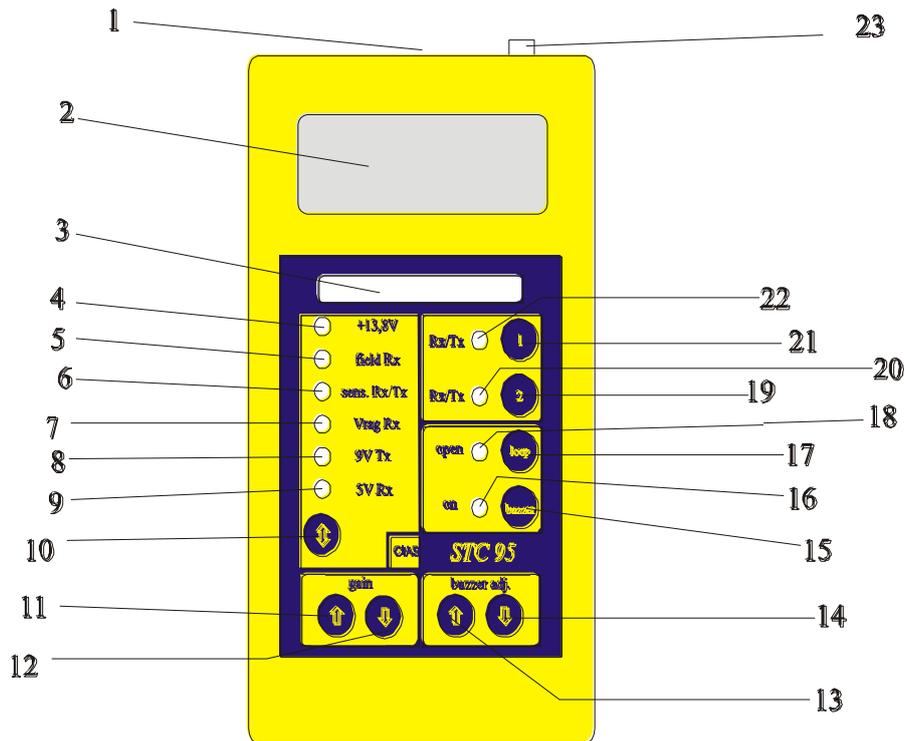

Figure 10
For the Microwave Barrier Adjustment and Testing, CIAS gives the availability of a dedicated instrument, with the intention to facilitate installation operation and operator activity support. The following figure 10 shows the CIAS STC 95 instrument with function explanations.
- l) Press key **“↑” (10)** till led **“V Rag Rx” (7)** is on. Check that a voltage value within $2,5 \div 6,5 V_{DC}$ is read on the display. This AGC voltage value is directly proportional to the distance between the transmitting and receiving heads.
- m) Press key **“↑” (10)** till the Sensitivity Measurement led **“sens Rx / Tx” (6)** is on. Operate on the **SEN** trimmer present in module RX (fig. 10) till a value within $0,3$ and $9 V_{DC} \pm 5 \%$ is read on the display. Note that the value of $0,3 V_{DC}$ corresponds to the maximum sensitivity, and that value $9 V_{DC}$ corresponds to the minimum sensitivity. The alarm crossing tests usually are performed with a walking person (standing) moving at a speed of 0.5 m/s. **We suggest to start this tests with the sensitivity adjusted at 50 % (trimmer position) and the integration adjusted at 40 % (trimmer position).** The final sensitivity adjustment must be related to the specific site requirements.